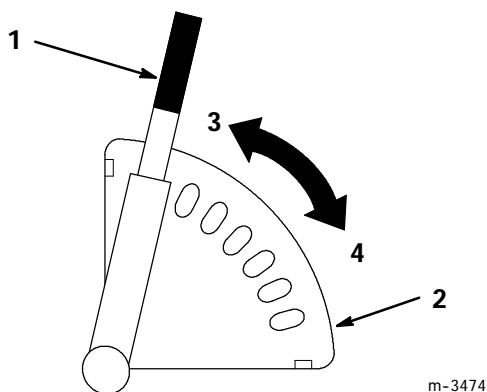

Figure 14
2. Pull the height-of-cut lever out to disengage it from the quadrant. Adjust the height of cut to the desired level. Release the lever inward to lock into the quadrant (Fig. 14).